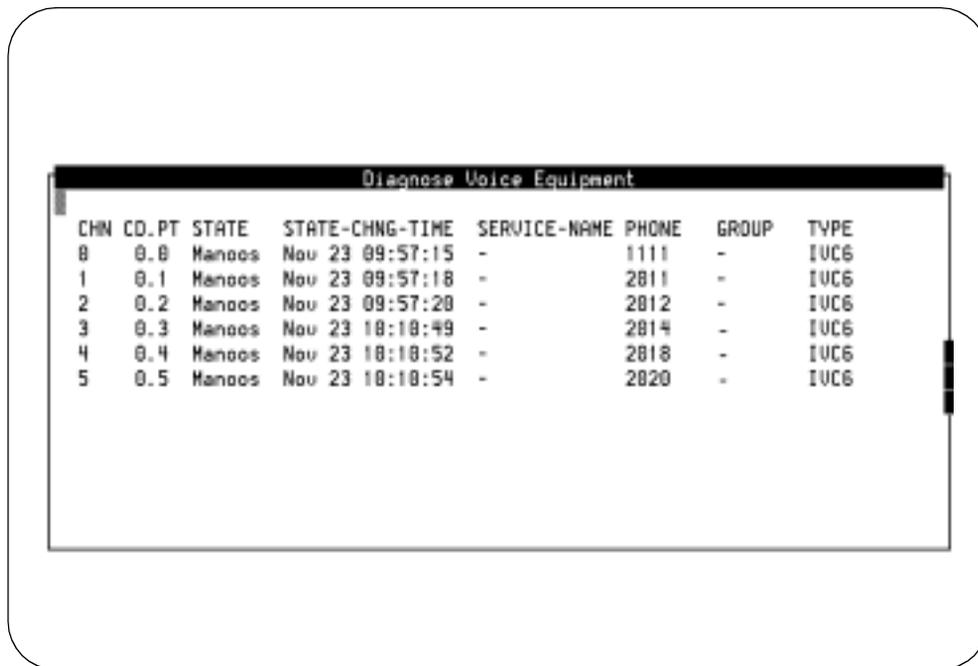
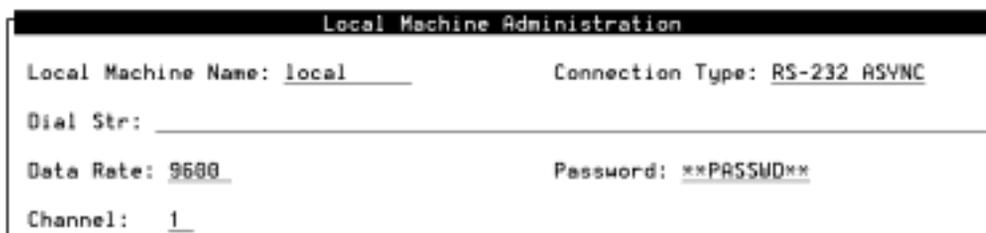

Figure 1. Example of an Lucent INTUITY Window
Figure 2. Example of an Lucent INTUITY Window
- The Lucent INTUITY system displays *windows, screens, and menus*. “Windows” show and request system information (Figure 1 and Figure 2, respectively). “Screens” request that you enter a command at the `enter command: prompt` (Figure 3). “Menus” (Figure 4) present options from which you can choose to view another menu, or a screen or window.